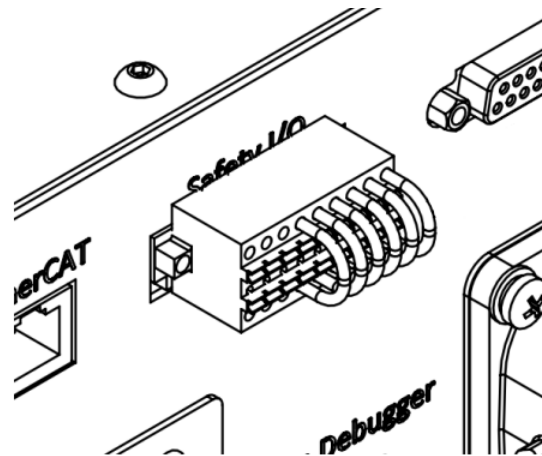

Figure 3-12 System short circuit module
Step4. Confirm that the system short-circuit module of the control cabinet is connected normally (Safety I/O in Figure 3-12 is the normal connection state).